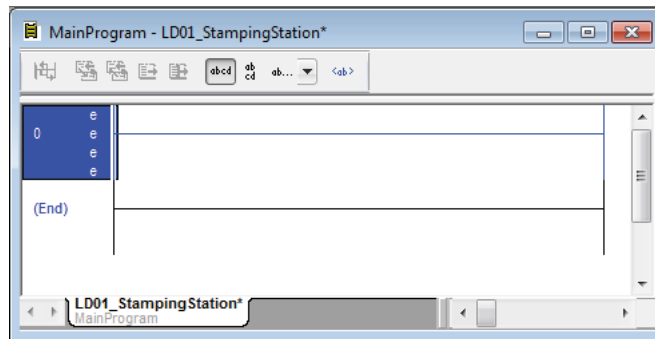

Figure 99. Empty routine.
- Open the newly created routine *LD01* (Figure 99). We see that there are two rungs already: the *(End)* rung that is not editable, and rung *0*.